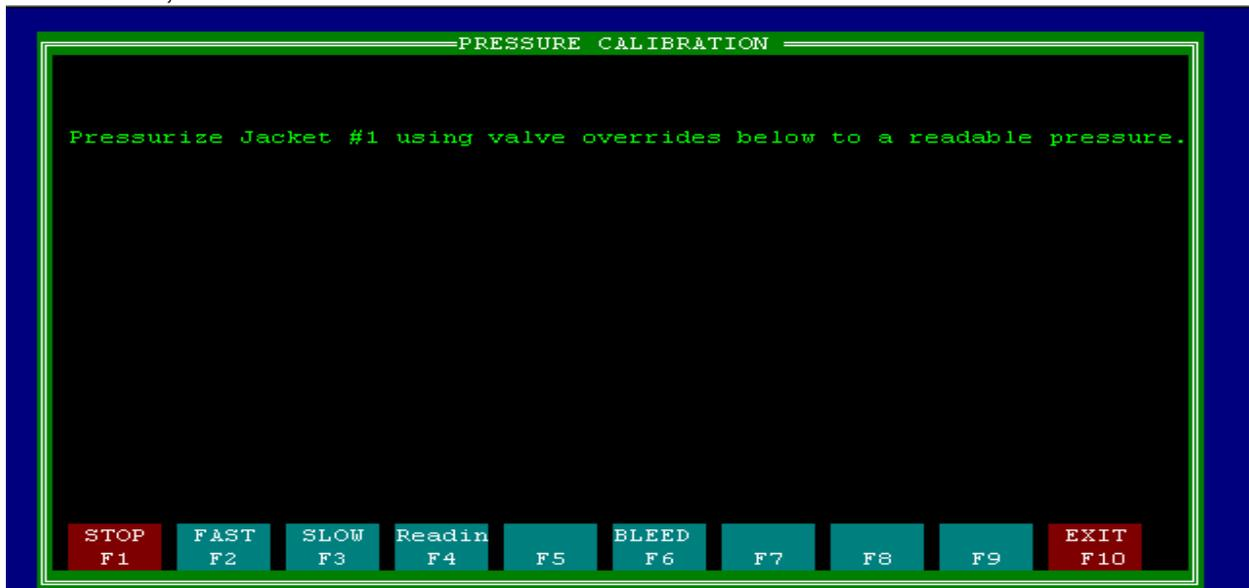

Figure 15-1
5. When the Calibrated Cylinder has been loaded into the test jacket, press any key to continue with the Pressure Calibration program. The Pressure Calibration Menu will appear on the Display Monitor, as shown in Figure 15-1, below.